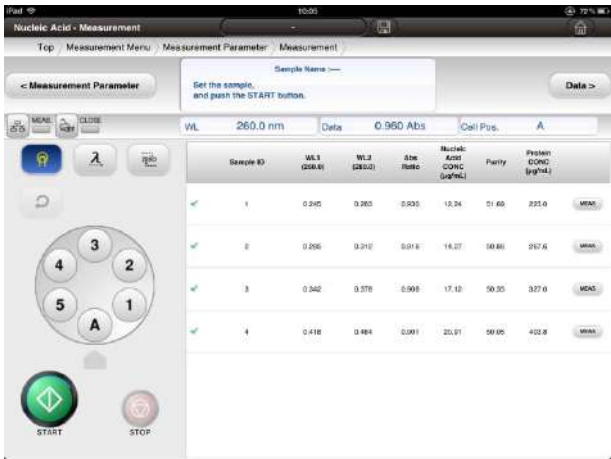

Fig. 4-123 Sample Measurement Window
- (3) After measuring a sample, the absorbance and concentration after measurement will be shown at the corresponding sample position (Fig. 4-123). This window will be shown after measuring each sample.